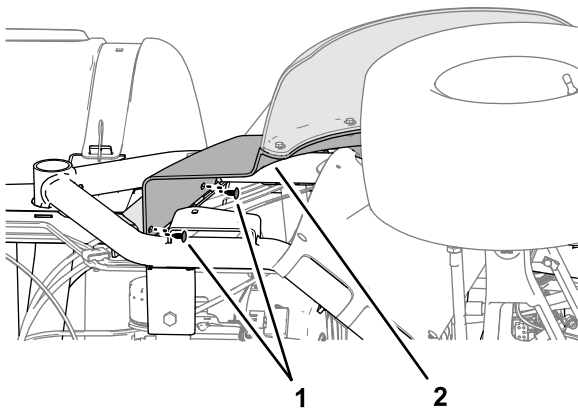

Figure 16
3. Carefully remove the 2 push-in fasteners that secure the right, front fender to the roll bar mounting channel (Figure 16).